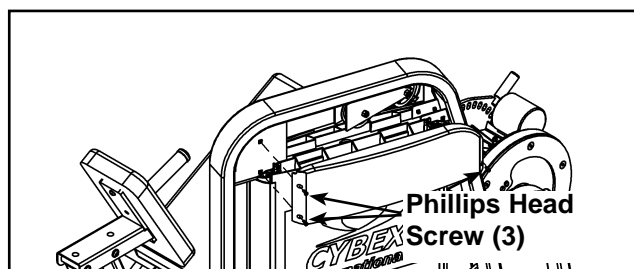

Figure 2
- E. Remove the three Phillips head screws securing the top (back) shroud. See Figure 2.